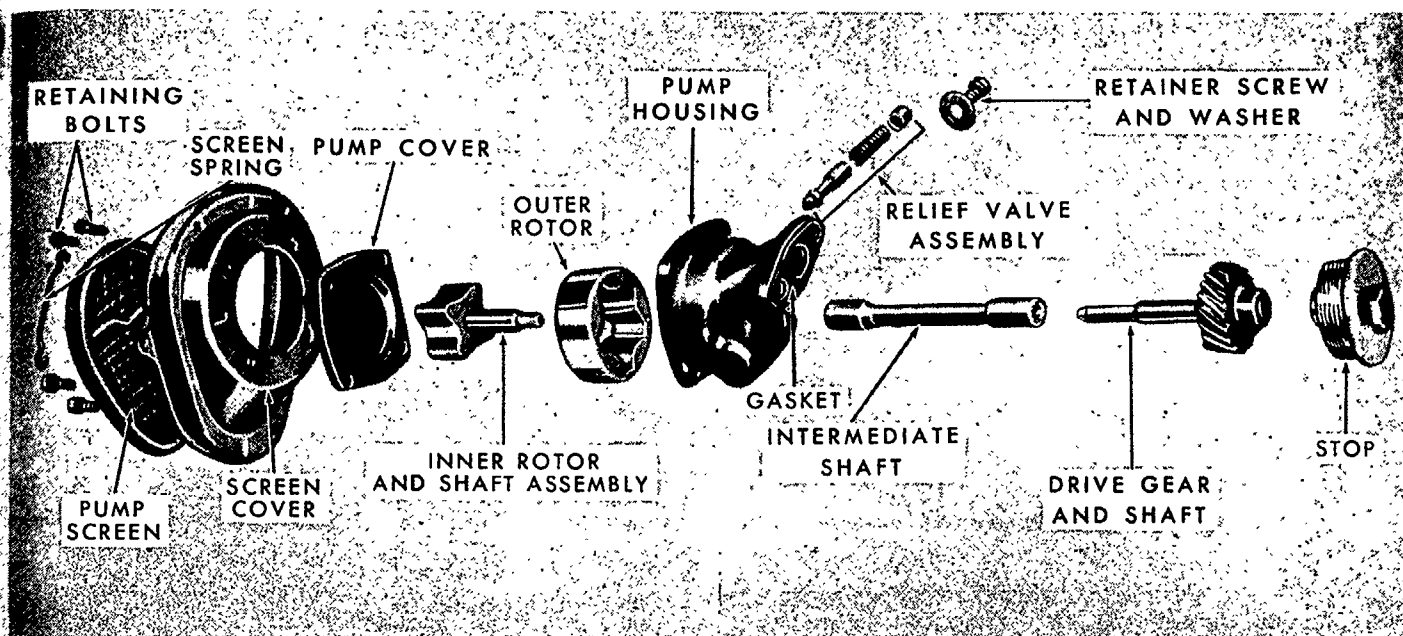

Figure 40
2. Remove the four cap screws and remove the screen cover and pump cover, Figure 40. Remove the rotor and shaft assembly.
4. Insert a self-tapping screw of the correct size into the hole in the relief valve plug and pull the plug out of the chamber. Remove the spring and relief valve, Figure 40.
The oil pump assembly is shown in Figure 40.